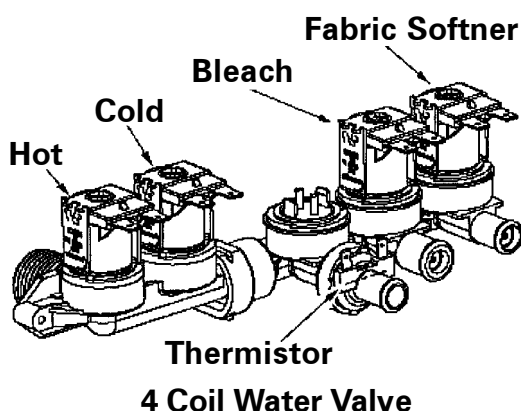

Figure 4-1
The water valve test is similar to the test outlined in the 16008373 manual, except, to check the ohm resistance of thermistor, pull the P3 wire harness connector off the machine control and locate the P3(6) and P3(7) leads in the connector on the machine control board. Note the thermistor has been relocated on the valve to the outlet of the valve. (*See Figure 4-1*)